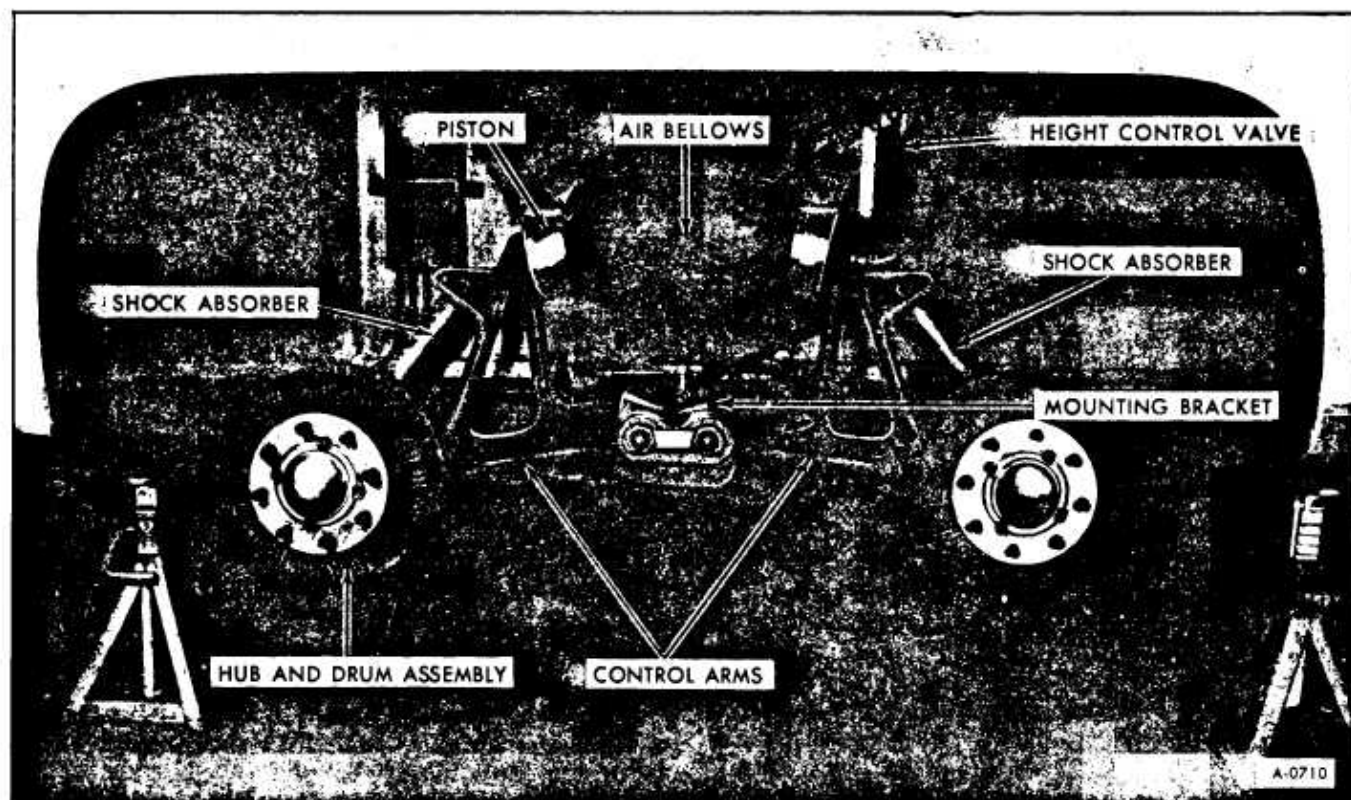

Figure 1-Rear Suspension (Left-Side View)
The rear suspension system (figure 1) on the vehicle consists mainly of air bellows, height control valves, control arms, and shock absorbers. The system operates automatically as load varies, to retain frame at proper ride height.
**CAUTION:** Whenever it is necessary to support the rear suspension with jack stands or other supporting equipment, as shown in figure 1, be sure jack stands are used only at a junction point(s) of the frame rail and crossmember. Failure to locate jack stand as instructed could result in damage to frame of vehicle.